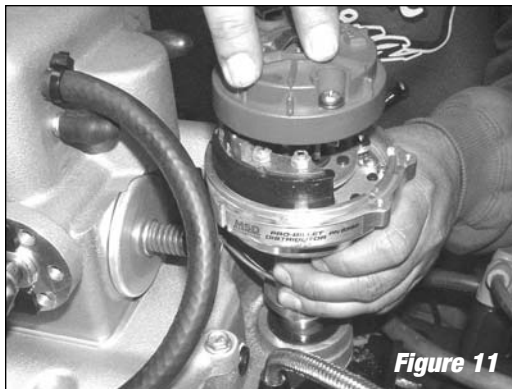

Figure 9
5. Carefully place the supercharger and manifold top plate assembly onto the intake manifold **(See Figure 9)**.